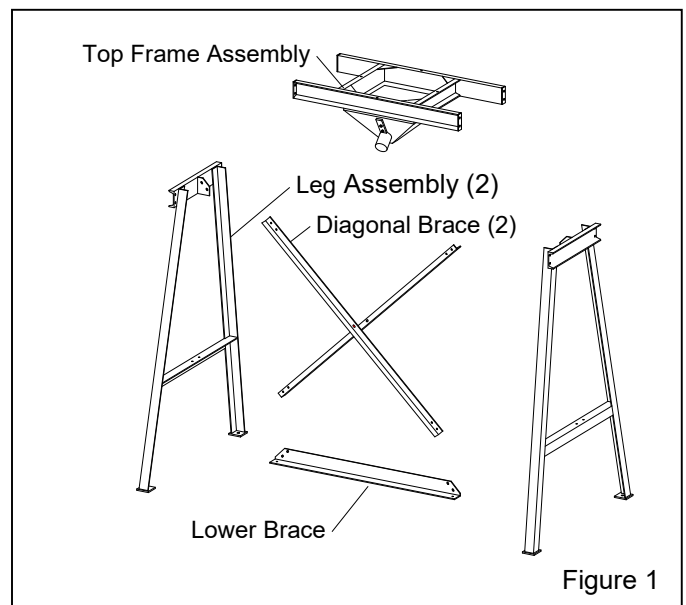
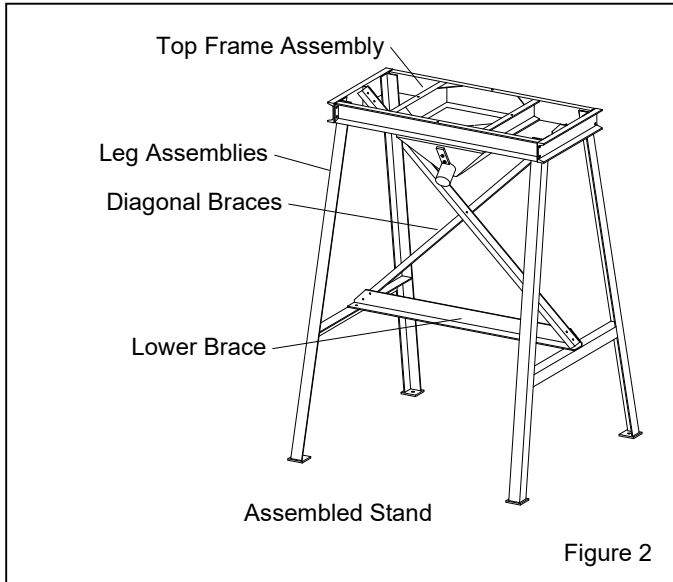

Figure 1
Figure 2
1.3.1 The 2-pot abrasive cleaner stand supports a single AWAC abrasive cleaner above two blast machines. The hopper diverts cleaned abrasive equally into both machines. A slide-gate shut off valve, located above each abrasive chute, provides means to shut off abrasive flow to the machine(s) so they can be emptied for service or when not in use. The components of the stand are shown in Figure 1. Use Figure 2 as a reference to show how the stand appears when it is assembled. All fasteners to assemble the stand are included as is the mastic seal, which goes between the abrasive cleaner and stand.